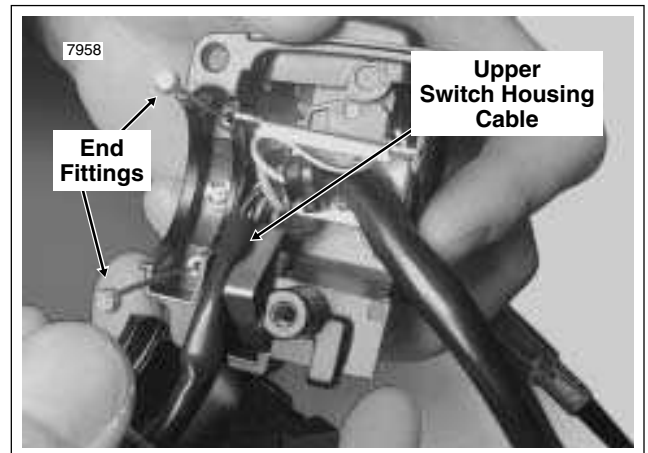

Figure 8-89. Route Cable to Upper Switch Housing
3. Route the cable to the upper switch housing as shown in Figure 8-89.